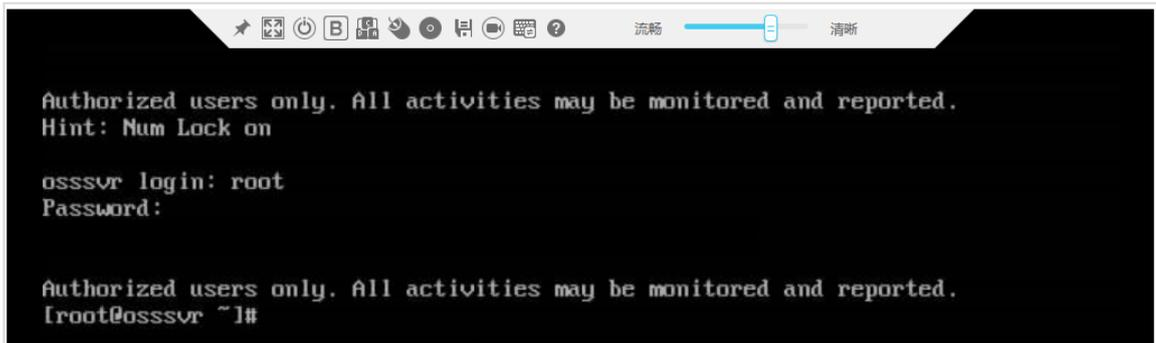

Figure 4-14 Login page
Step 5 After the OS is installed, use the root user name and password of the EulerOS to log in to the server, as shown in Figure 4-14.